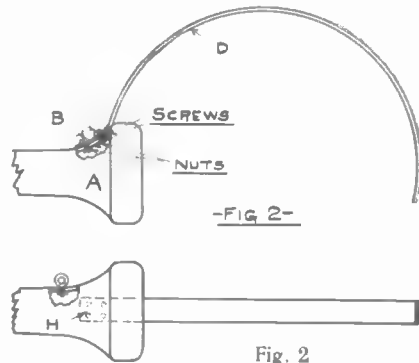

Fig. 2
I bought a piece of hard strap brass one inch wide and one foot long, and $\frac{1}{16}$ of an inch thick. One inch from one end I bent it as in Fig 2, and bored a $\frac{1}{8}$ inch hole in each corner of the straight
part, shown at B, Fig. 2. I now bored 4 corresponding holes (H, Fig. 3) in the receiver shell just back of the screw cap with a $\frac{3}{32}$ inch drill. I now screwed the brass strap to the receiver with four screws, $\frac{5}{16}$ inch long. These screws (6-32 or 8-32 thread), are fastened inside with 4 nuts, which makes the head band very secure.
-FIG. 2-
post nail one of the brass-headed tacks; these tacks are pretty long and will go through to the other side, but they should be bent over after the wiring has been put on. The wire should be fastened on the board by the little tacks. Before putting the wire on, twist it around one of the binding posts and then put on the wire as shown in Fig. 2. After the wire has been put on as far as the last tack, wind it around the tack and then cut the wire off, and bend the tack over. Then
-Fig. 2.a-